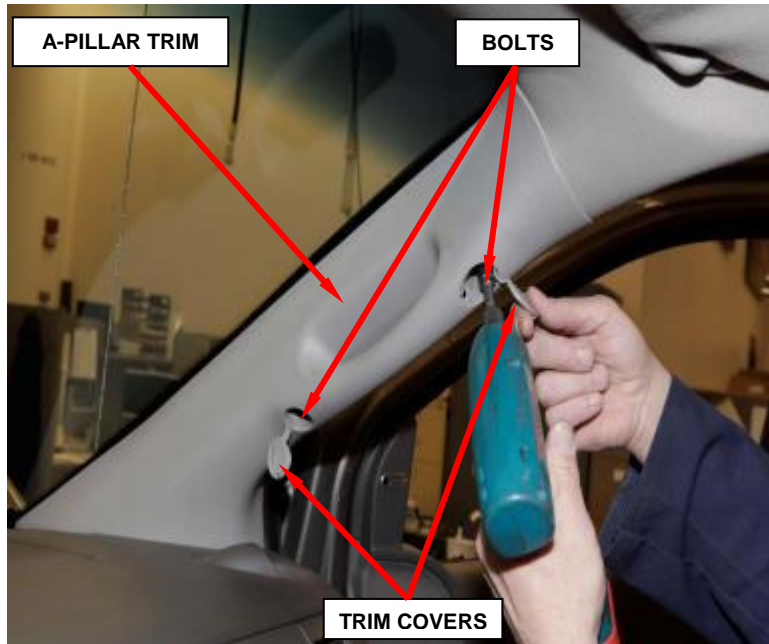

Figure 15 – Passenger Side A-Pillar Trim
- b. Open the trim covers in the passenger side A-pillar grab handle and remove and save the two bolts (Figure 15).